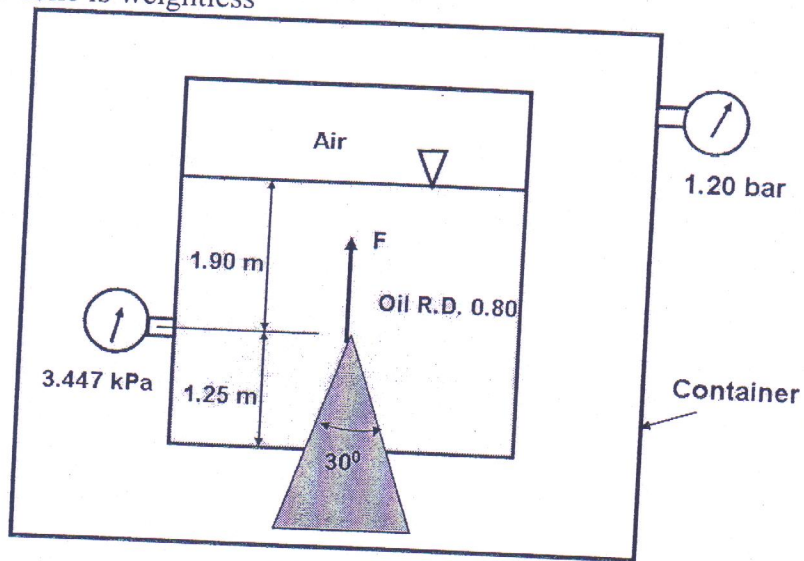

Figure-02
- Q. 2 a) Determine the force F required to hold the cone in the position shown in Figure-02. Assume the cone is weightless (12)